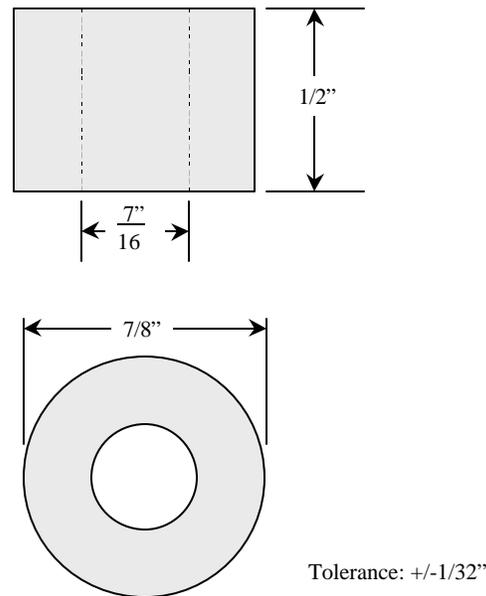

Figure 1
- 3.1.9 6 ea. Plastic mounting spacers made from hard, high density black polyethylene, as shown in Figure 1.